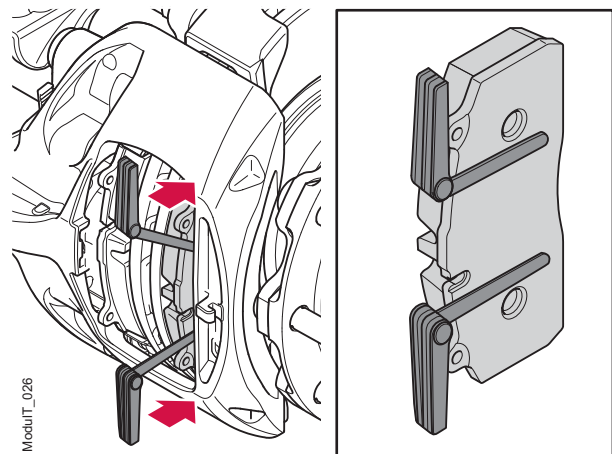

Figure 16. Correct location of the feeler gauges
4. Insert two feeler gauges in between the calliper and the outer brake pad to measure the clearance. Position the feeler gauges in the upper and lower part of the brake pad back plate so an average clearance is measured, see figure 16.